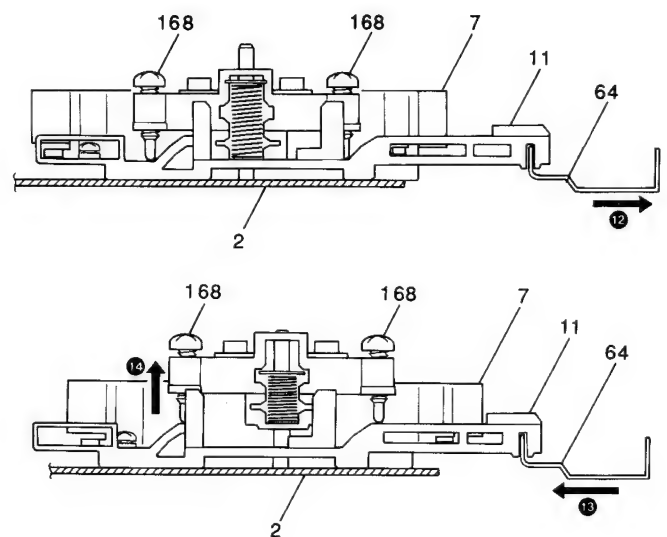

Fig. 9
- d) The shift plate (11) is moved in direction of arrow ( **11** ), and head moves up and down per arrows ( **12** , **13** and **14** ) in Fig.9.